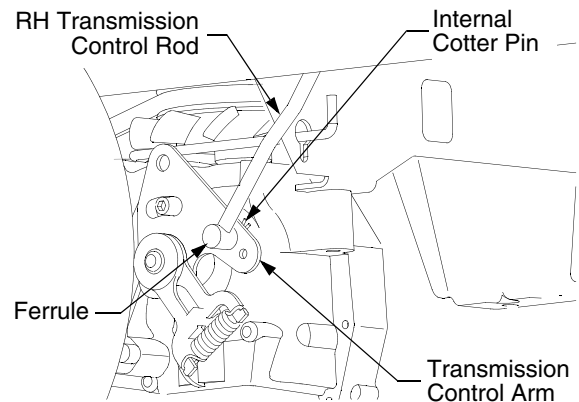

Figure 25
- If only one wheel is rotating, locate the transmission control rod beneath the frame at the front of the rear tire. If both wheels rotate, locate both control rods. See Figure 25.